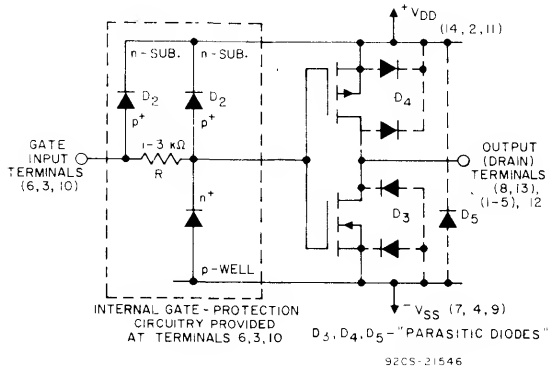

Fig. 34— Integral protection circuits used in CA3600E.
Fig. 34 shows a protection circuit^{5,8} which is incorporated at each gate-lead of the CA3600E. A typical value of 1 to 3 kilohms is used for the input resistor R, which functions in combination with the capacitance of the gate and the associated protective diode to integrate and clamp input voltages to a safe level. This circuit also shows the "substrate diodes" (D_3 , D_4 , and D_5) which provide protection to the MOS channels at the output terminals.
4. Signals from low-impedance sources should not be applied to the gate terminals while the power supply is off. As a corollary, it follows that the power supply should not be turned off while a signal from a low-impedance source is being applied to any gate terminal. When the V_{DD} supply is off, the positive "back-bias" voltage is removed from the cathode of diode D_2 (see Fig. 34). Consequently, an input signal with positive-going polarity can drive D_2 into conduction. Under these conditions a low-impedance signal source can provide sufficient current to permanently damage D_2 and/or melt aluminum interconnection paths. Therefore, if, in any system design using the CA3600E, any gate input excursion is expected to exceed $+V_{DD}$ or fall below $-V_{SS}$, the current through the input diodes should be limited to 100 μ A.